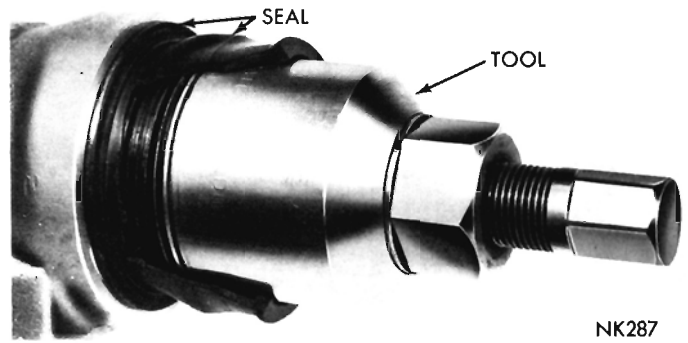

Fig. 48—Removing Output Shaft Oil Seal
(2) Cut the boot end off the seal, then screw the taper threaded end of Tool C-748 into the seal (Fig. 48). Tighten the screw of the tool to remove the seal.